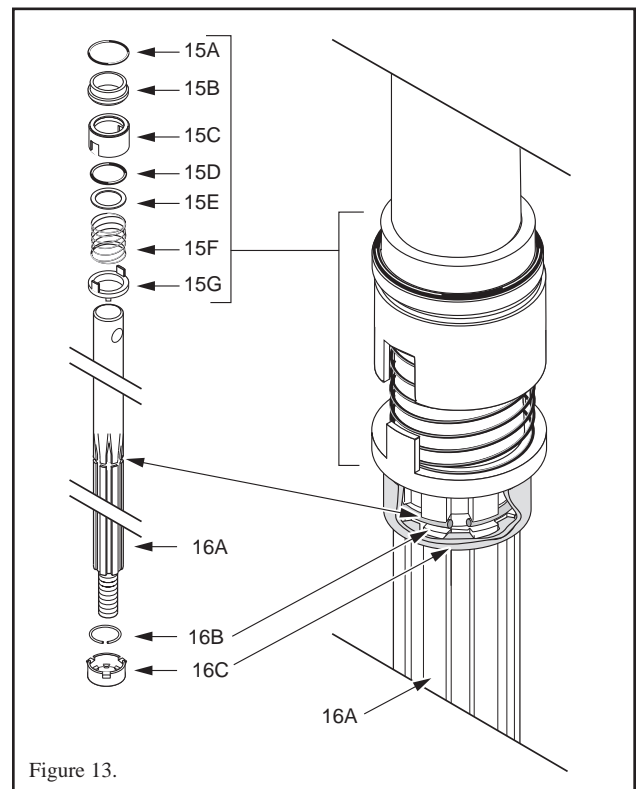

Figure 13.
2. Remove the four nuts, lockwashers, and washers (8, 9A and 9B) from the staybolts (19).
3. The shaft seal consists of an O-ring (15A), the stationary half of the mechanical seal (15B), the rotating half of the mechanical seal (15C), a second O-ring (15D – inside 15C), a flat washer (15E), a spring (15F), and a mechanical drive ring (15G), in that order; see Figure 13. Turn the pump head upside down and remove the stationary part of the seal (15B) from the seal seat in the base of the motor bracket.